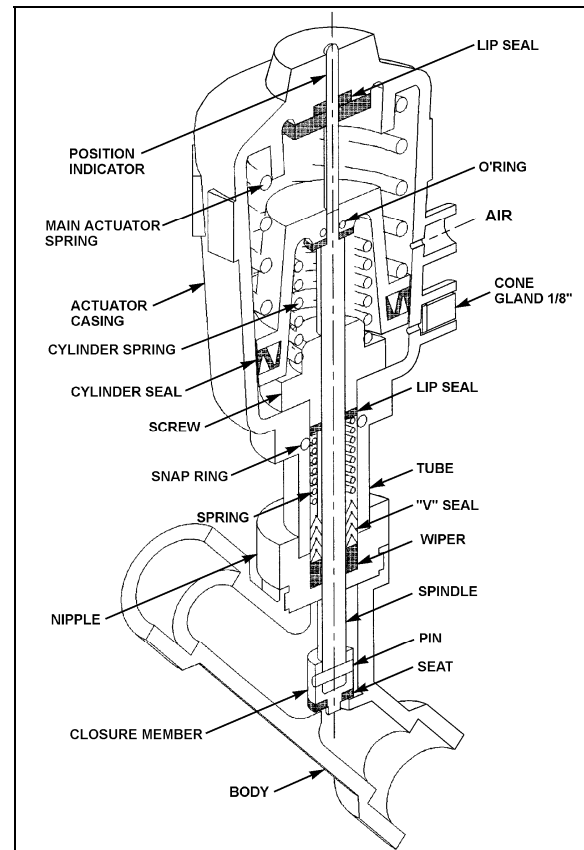

FIGURE 46: PNEUMATIC WATER VALVE
2. The water valve need not be removed from the line. Unscrew nipple, the actuator casing, tube, spindle and closure member can be removed (Fig. 46).
2. Tighten the nipple in place in the body cavity as per figure 46. Fasten pilot solenoid valve to the pneumatic water valve. Reconnect air supply pressure and electrical current to the pilot solenoid valve.